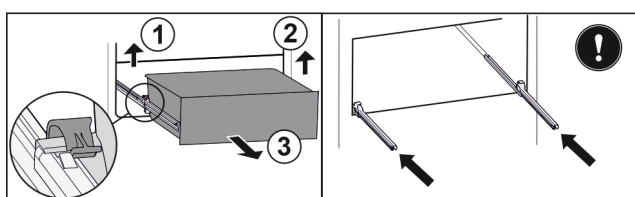

Fig. 27*
- Lift the left clamp and simultaneously pull the drawer on the left forwards Fig. 27 (1).*
- Lift the right clamp and simultaneously pull the drawer on the right forwards Fig. 27 (2).*
- Take out the drawer to the front Fig. 27 (3).*